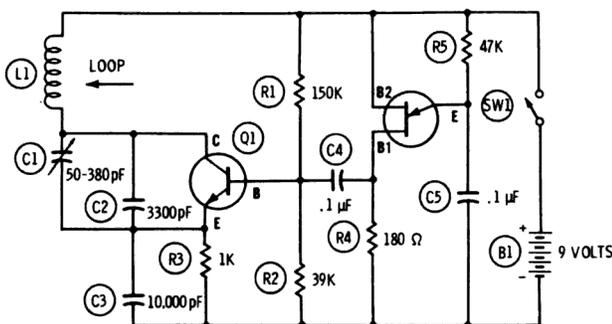

Figure 2: Transmitter circuit.
**Transmitter** - As shown in Fig. 2, transistor Q1 and its associated components L1, C1, C2, C3, pi, R2, and R3 form an oscillator circuit. The operating frequency, which is in the rf range, is determined by the loop and the three capacitors. The three resistors are used to set the operating bias and the output level of the oscillator.